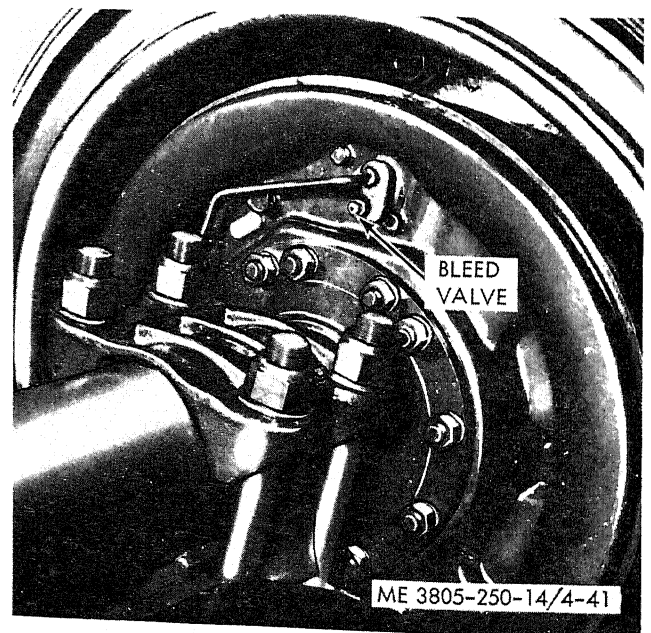

Figure 4-41. Bleeding brakes.
- (1) Fill and bleed the pressure tank according to manufacturer's directions
- (2) Connect a line from the pressure tank to the hydraulic cylinder filler opening and open the valve on the pressure tank.
- (3) Loosen the bleeder valve (fig. 4-41) on the wheel cylinder and observe brake fluid flow. When air bubbles no longer appear, close bleeder valve.
- (4) Repeat step 3 for opposite wheel.